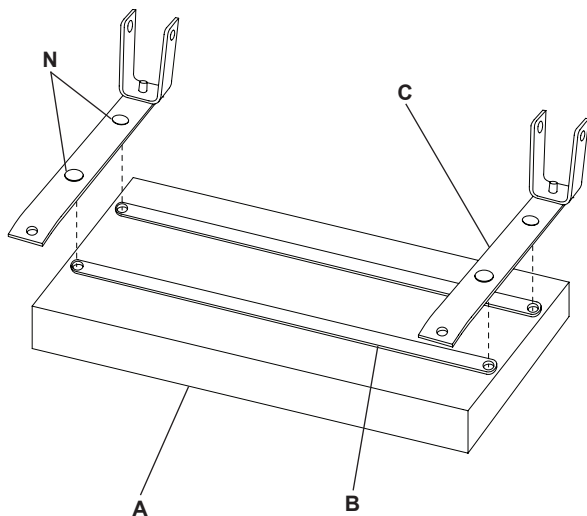

Figure 1 - Seat Cushion Assy.
1. With the Seat Cushion (A) facing down, align the holes of the Crossbars (B) with the seat. Then align the holes of the Seat Supports Bars (C) and attach with four M6 x 16 Phillips Head Screws. (N) (Fig. 1).